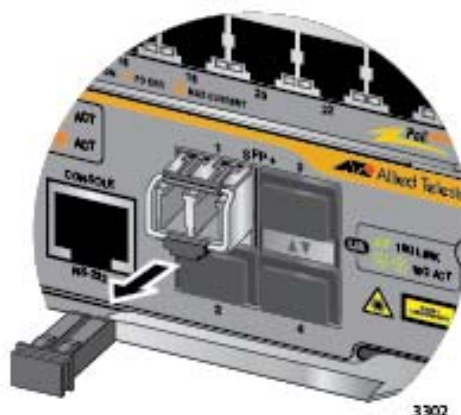

Figure 121. Removing the Dust Cover from an SFP+ Transceiver in the AT-SBx81CFC960 Controller Fabric Card
4. Remove the protective cover from the SFP+ transceiver, as shown in Figure 121.